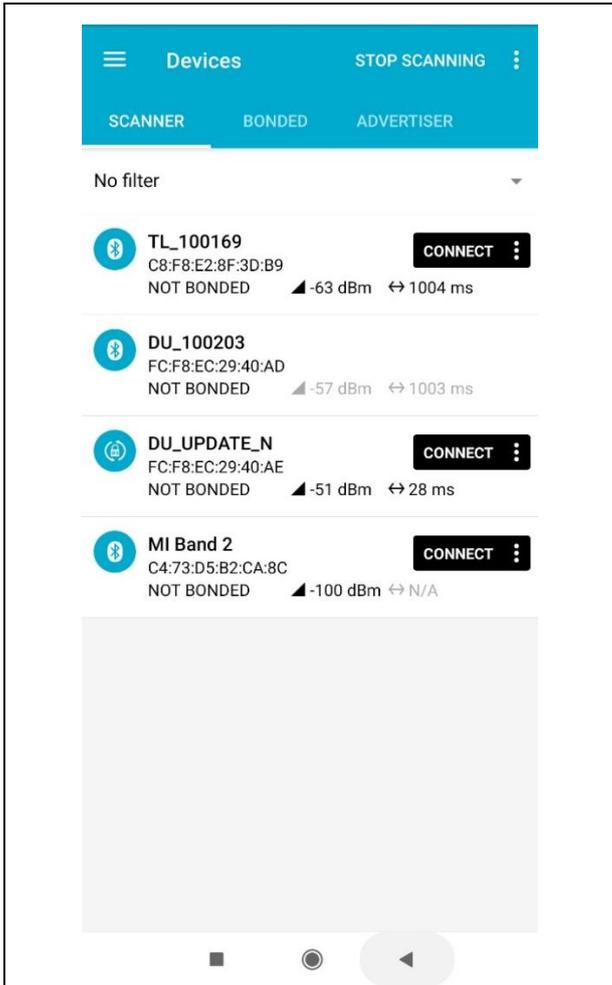
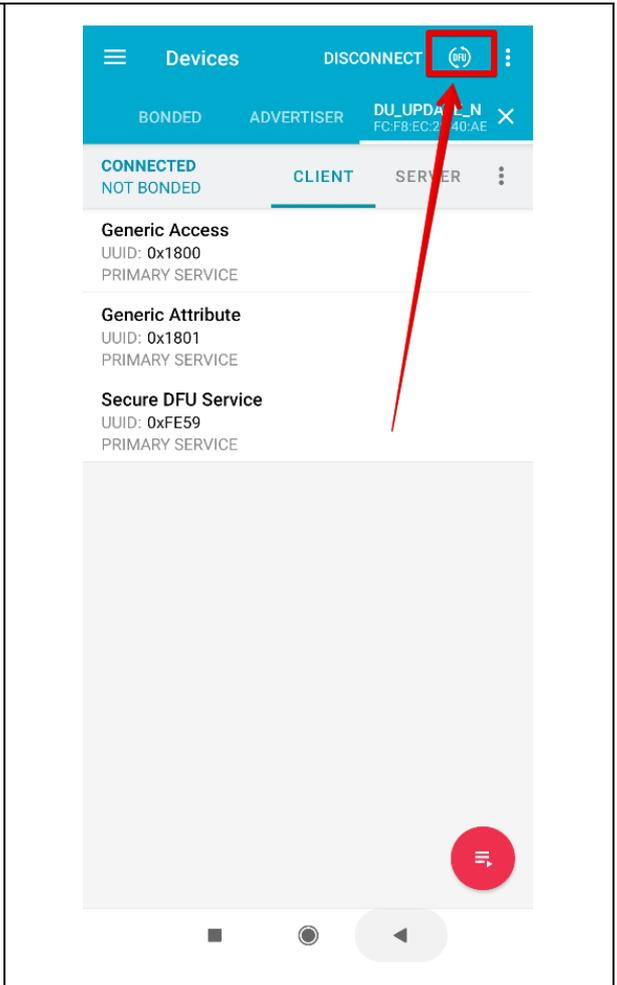

Fig. 10.3. Find DU_UPDATE_N and **Connect** it
Fig. 10.4. Tap on the **DFU** button
6. During those 30 seconds, you need to open the nRF Connect app, tap **Scan** and find the **DU_UPDATE_N** device on the list and tap **Connect** (Fig. 10.3.) Then press **DFU** (Fig. 10.4.) in the upper right corner